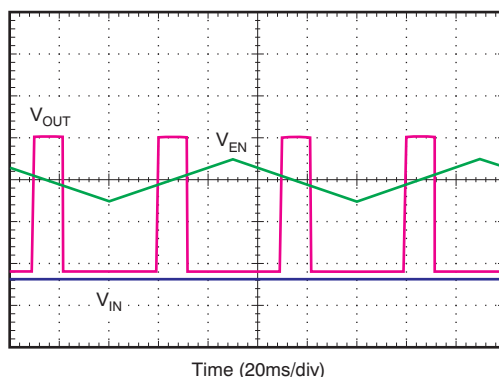

**Figure 28. Enable Pin Positive and Negative Threshold**
The TPS7A33 provides a dual-polarity enable pin (EN) that turns on the regulator when  $|V_{EN}| > 2$  V, whether the voltage is positive or negative, as shown in Figure 28.